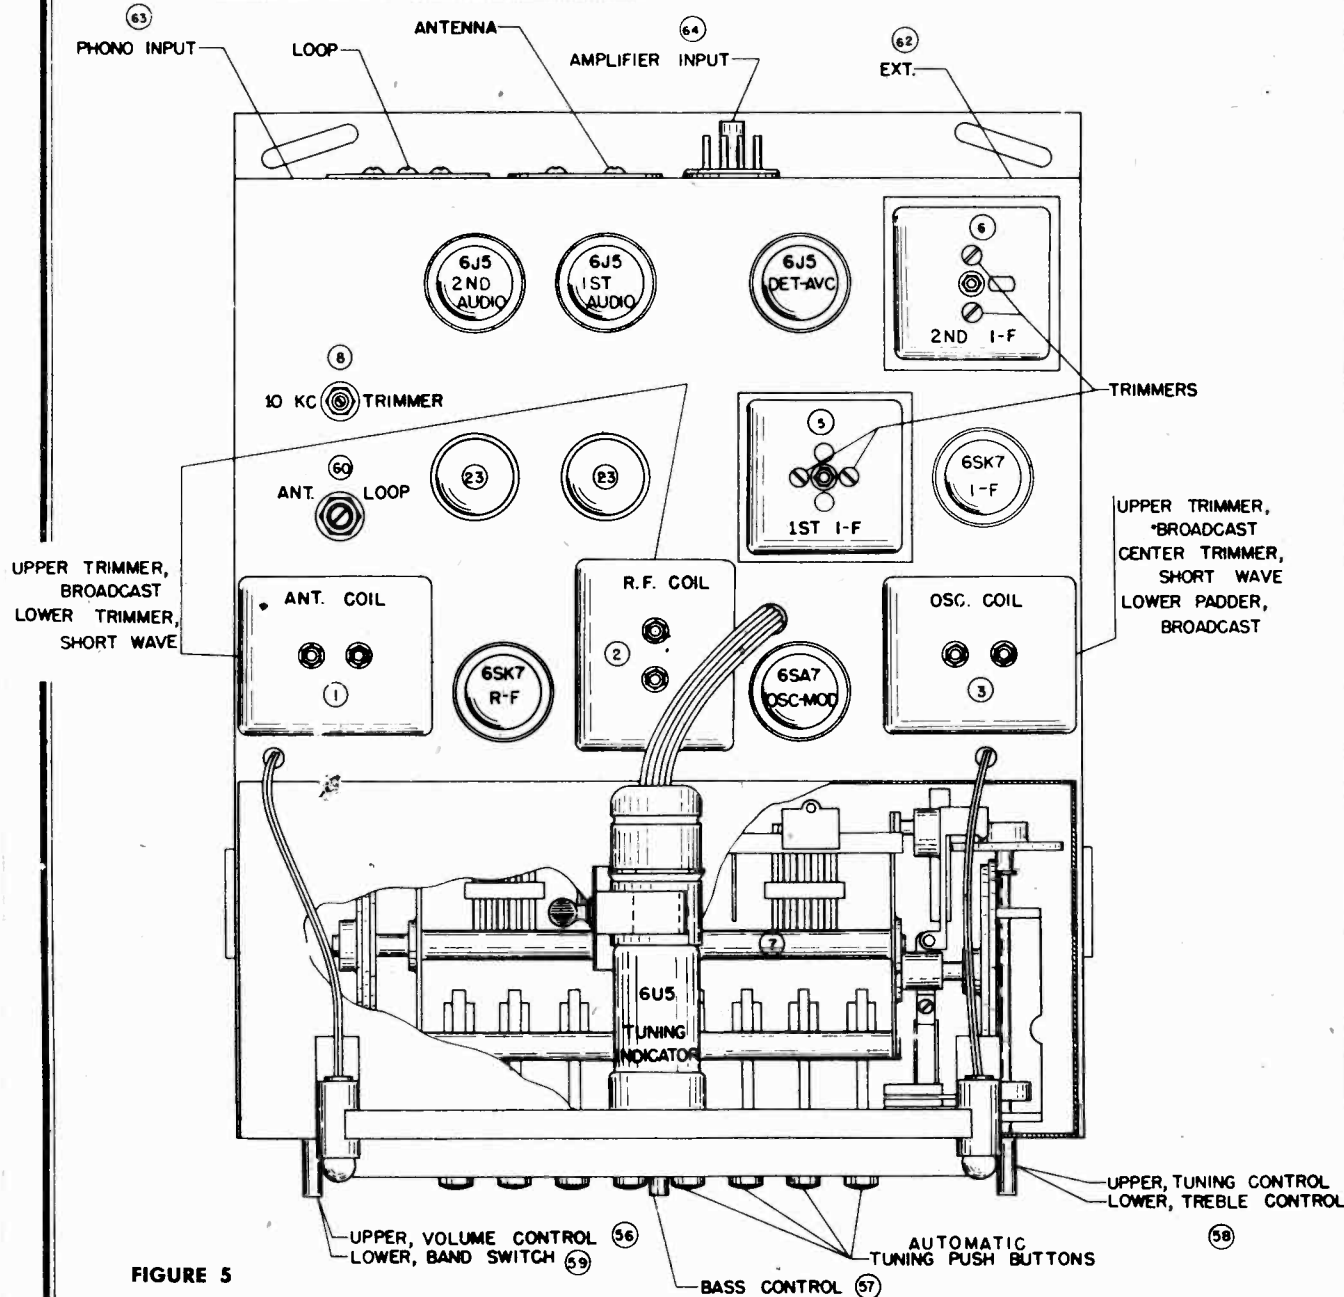

FIGURE 5
The alignment of this receiver requires the use of an accurately calibrated r-f signal generator and an output meter. All trimmer condenser locations are shown on the chassis layout diagram, Figure 5. The radio volume control should be turned to maximum and the signal generator output kept as low as possible during alignment to prevent the AVC from operating and giving false readings. *Always set the Treble Control to SHARP TUNE before aligning the i-f stages.* This is done by turning the Treble Control Knob to the No. 1 position.
3. Adjust the signal generator to EXACTLY 455 kc. and peak the second i-f transformer and the first i-f transformer trimmers in that order. On early models of the CR-188 chassis, the two i-f trimmers are located in the top of the respective i-f transformers as shown in the layout diagram Figure 5. In later production, one trimmer is accessible from